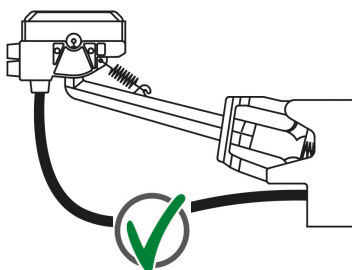

Fig. 104: Connection cable laid correctly
- Distance of opposing end caps not larger than 3 mm (see Fig. 104)
- Height and lateral offset not greater than 2 mm (see Fig. 104 and Fig. 105)